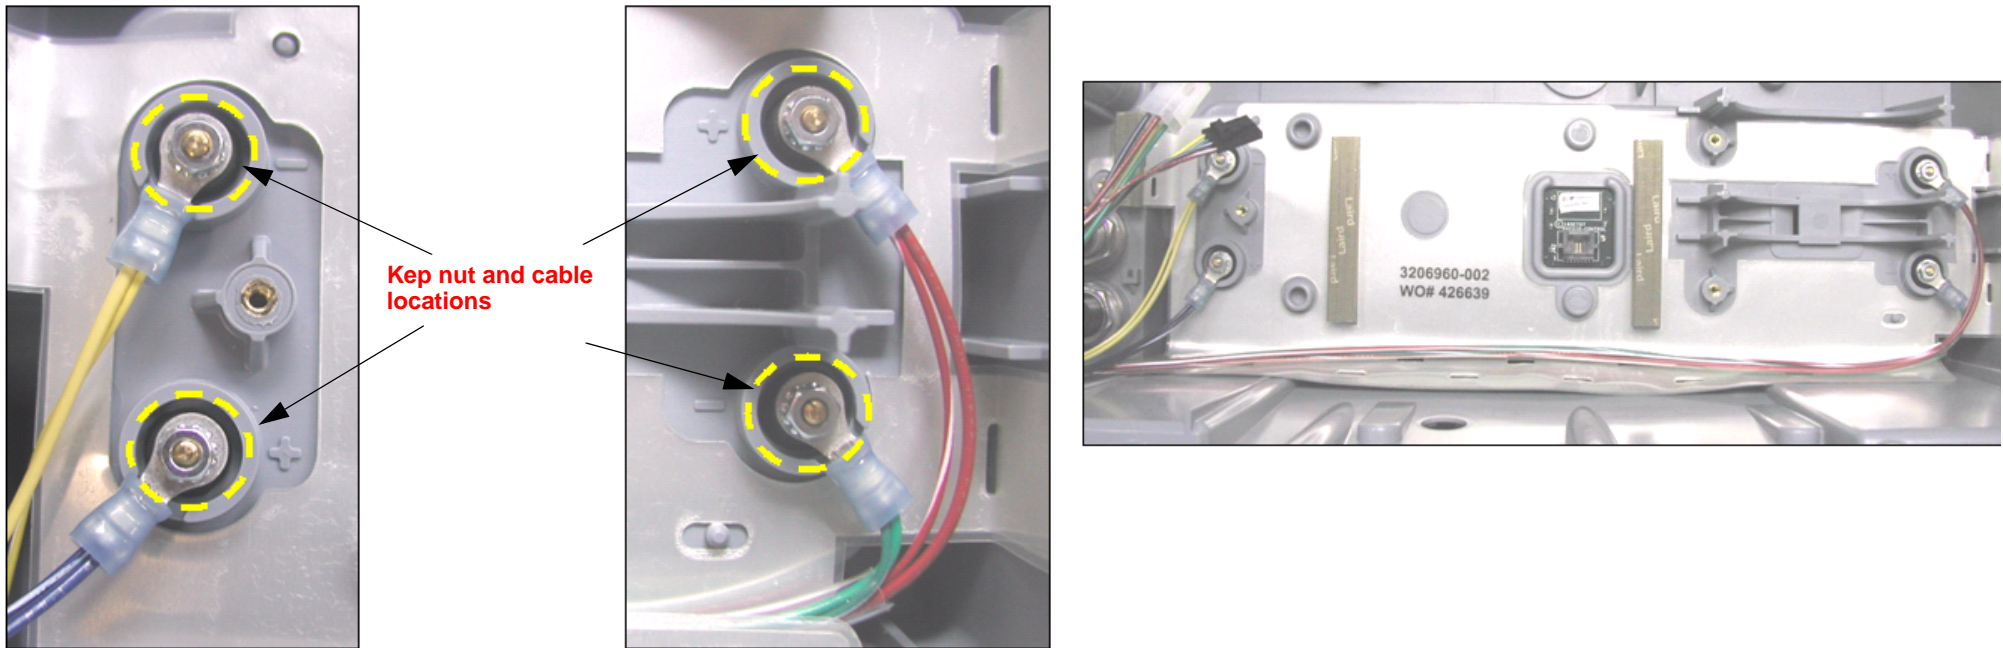
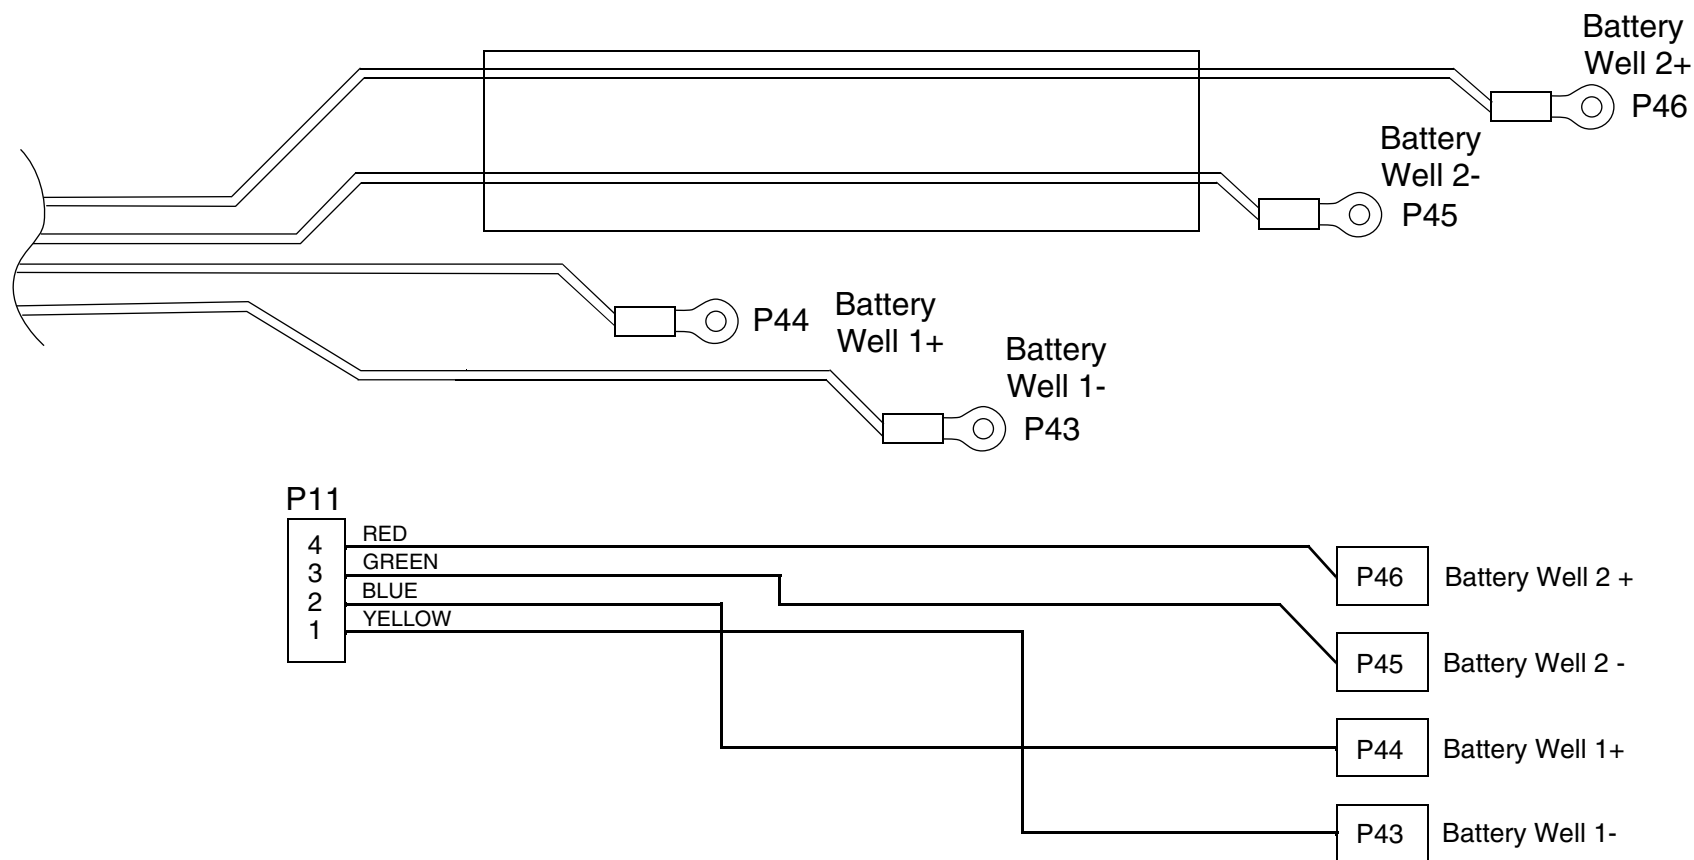

Figure 8.97—Power PCB cable Keep nut and cable locations
Figure 8.99—V2 (REF 21330-001555)
Refer to Figure 8.97 on p. 320 and Figure 8.86 on p. 291.
2. Connect terminals P43 and P44 at Battery Well 1, and P45 and P46 at Battery Well 2 and replace the four Kep nuts (REF 21300-000804) (torque to 4.0 in-lb using 1/4" socket and drive adapter). See Figure 8.97 on p. 320 and Figure 8.99 on p. 324.